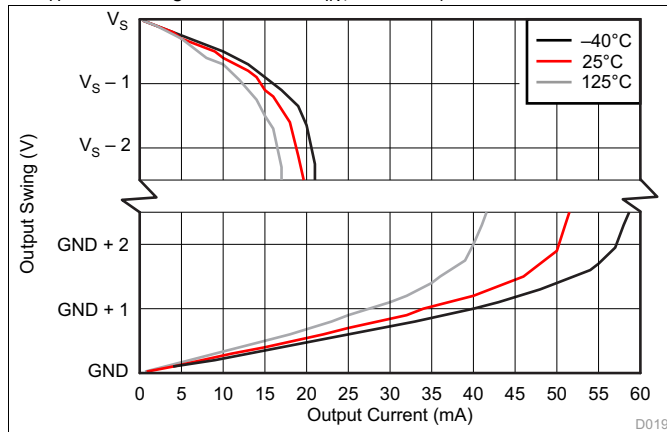

Figure 19. Output Voltage Swing vs Output Current
(1) RTI = referred-to-input.
(2) Offset voltage is obtained by linear extrapolation to $V_{SENSE} = 0\text{ V}$ with $V_{SENSE} = 10\%$ to 90% of full-scale-range.
(3) See Figure 19.
(4) Swing specifications are tested with an overdriven input condition.